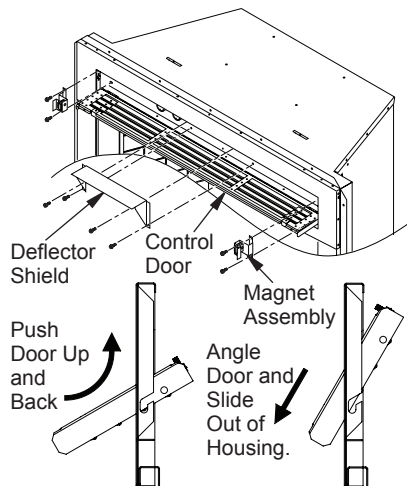

Figure 29 - Removing/Replacing Control Door
2. Remove 4 Phillips screws from deflector shield. Angle deflector shield out of opening (see Figure 29).
4. Lift up on inner control door and push in each end until pivot pins are free of notches located on each side of access opening (see Figure 29).